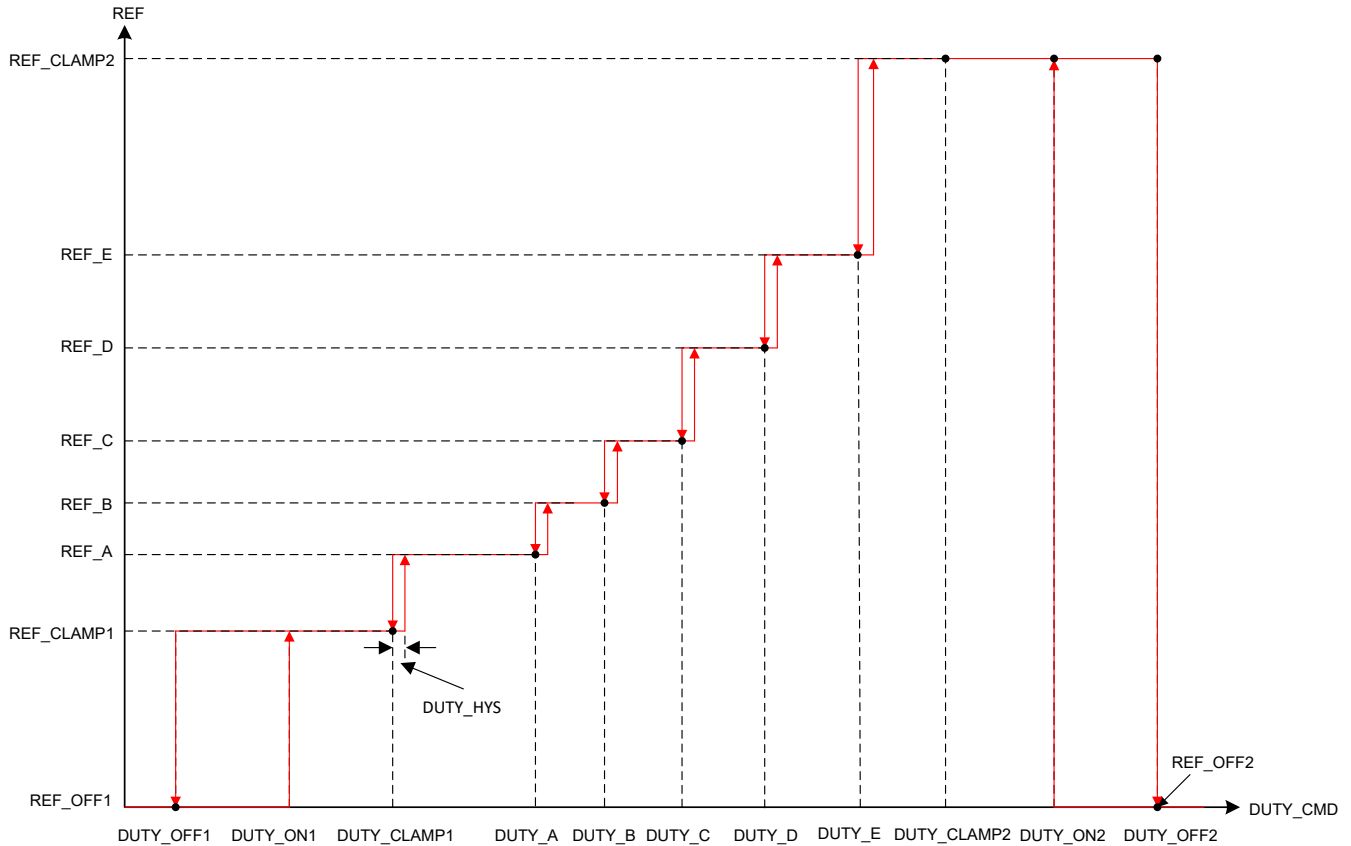

Figure 6-19. Staircase Control Profiles
- DUTY_OFF1 and DUTY_ON1 configures a hysteresis around reference control input REF_CLAMP1 and REF_OFF1 as shown in Figure 6-19.
- DUTY_A configures the duty command for reference REF_A. There is a step change in reference from REF_CLAMP1 to REF_A at DUTY_CLAMP1. DUTY_A to DUTY_E has to be in the same order as shown in Figure 6-19.
- DUTY_OFF2 and DUTY_ON2 configures a hysteresis around reference control input REF_CLAMP2 and REF_OFF2 as shown in Figure 6-19.